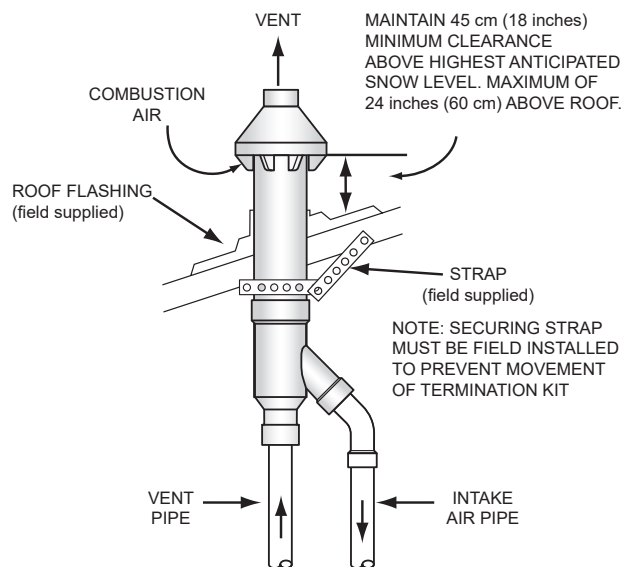
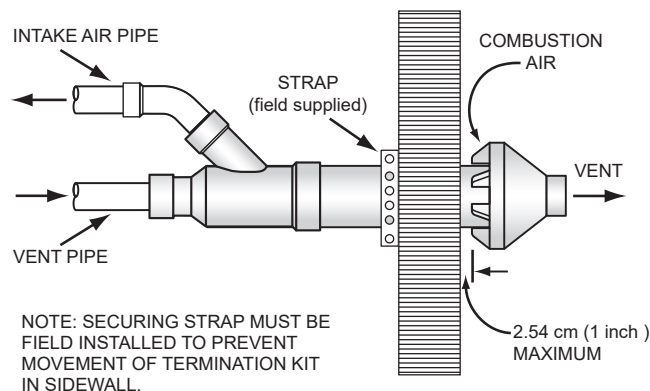

Figure 39. Concentric Termination - Vertical Installation
Figure 40. Concentric Termination - Sidewall Installation
2. When installing a concentric termination vertically through the roof, ensure that all exterior vertical clearance requirements for the concentric termination shown in **Figure 36** and **Figure 39** (page 41) are being maintained. These clearances and those cited by local and national codes must be maintained.
9. Assemble and install the concentric termination. See **Figure 38**, **Figure 39**, and **Figure 40** for these instructions.
Eight concentric terminations can be installed in two stacked groups of four, in close proximity, as shown in **Figure 39**. See **Figure 39** (page 41) for detailed information on clearances.